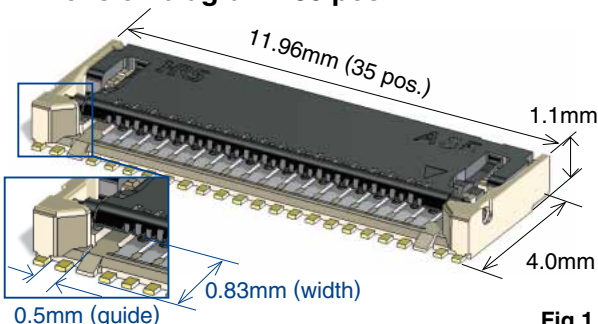

Fig.1
- Space saving design with 0.25mm pitch, 4.0mm width. (Fig.1)
- Wide guide for easy FPC insertion easy. (Fig.1)
Figure 1 is a detailed technical drawing of a land pattern image. It shows a rectangular area with various dimensions and labels. The overall width is labeled as $C \pm 0.02$. The overall height is labeled as 0.67 ± 0.01 . The drawing includes several rectangular features, some of which are labeled with dimensions like 0.25 ± 0.01 , 0.35 ± 0.01 , 0.63 ± 0.01 , and 3.4 ± 0.01 . There are also labels for specific features, such as $(n-1)/2 \times$ and $(n+1)/2 \times$, and a label Y indicating a specific feature. The drawing is divided into several sections, with labels B and F indicating different parts of the pattern. The overall layout is symmetrical, with a central vertical line and features on either side.